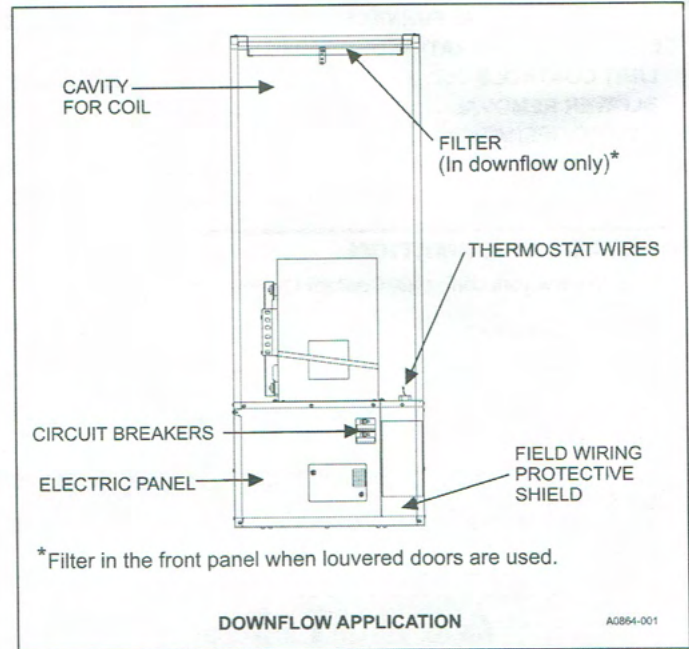

FIGURE 1: EBE Downflow Component Locations
4. Slide the blower out from the front of the furnace. See Figure 1 or 2.
Your electric furnace is equipped with a unique safety feature: circuit breakers. These circuit breakers are located behind the door of the furnace near the bottom of the furnace. See Figure 1. If a component fails inside the furnace, the circuit breakers prevent damage that can be caused by an electrical short.
**FILTER LOCATION:** For the downflow furnace, you must remove the front panel of the furnace to gain access to the filter. See Figure 1. For the upflow furnace, the filter is located behind the return air grill, adjacent to the furnace closet or any other location in the return air.